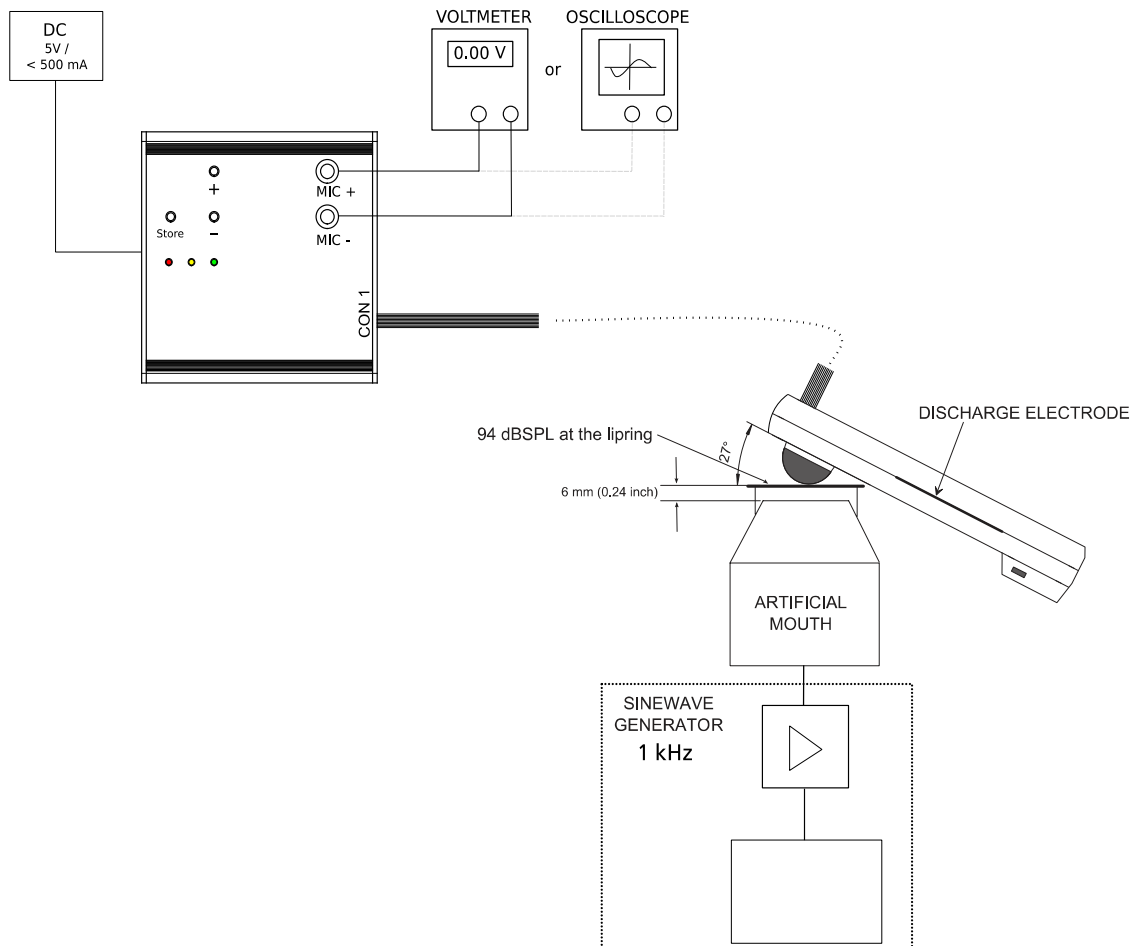

Figure 14: Setup with artificial mouth
4. Connect to Voltmeter or Oscilloscope (Fig. 14 or 15)
- vi. Put the handset in an angle of approx. 27° and a distance of 6 mm to the artificial mouth. (See figure 14)
- vii. Stimulate the microphone with 94 dB SPL at 1 kHz with the artificial mouth. (See figure 14)